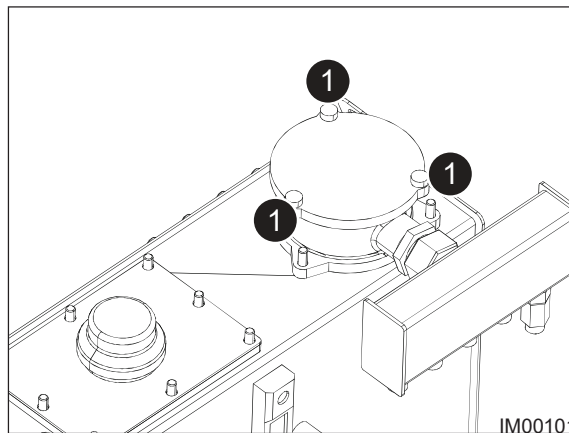

Fig: 11.40 - Return Line Filter Cover Plate
3. Firmly hold down the filter cover plate and remove the three bolts (Items 1, Fig: 11.40).
8. Secure the cover plate using the 3 securing bolts (Items 1, Fig: 11.40).